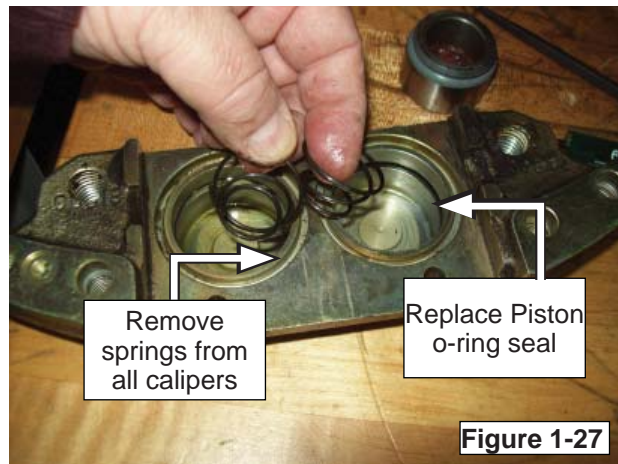

Figure 1-27
- f. Withdraw the pistons and the spring located behind each piston. Discard the springs (FIGURE 1-27).